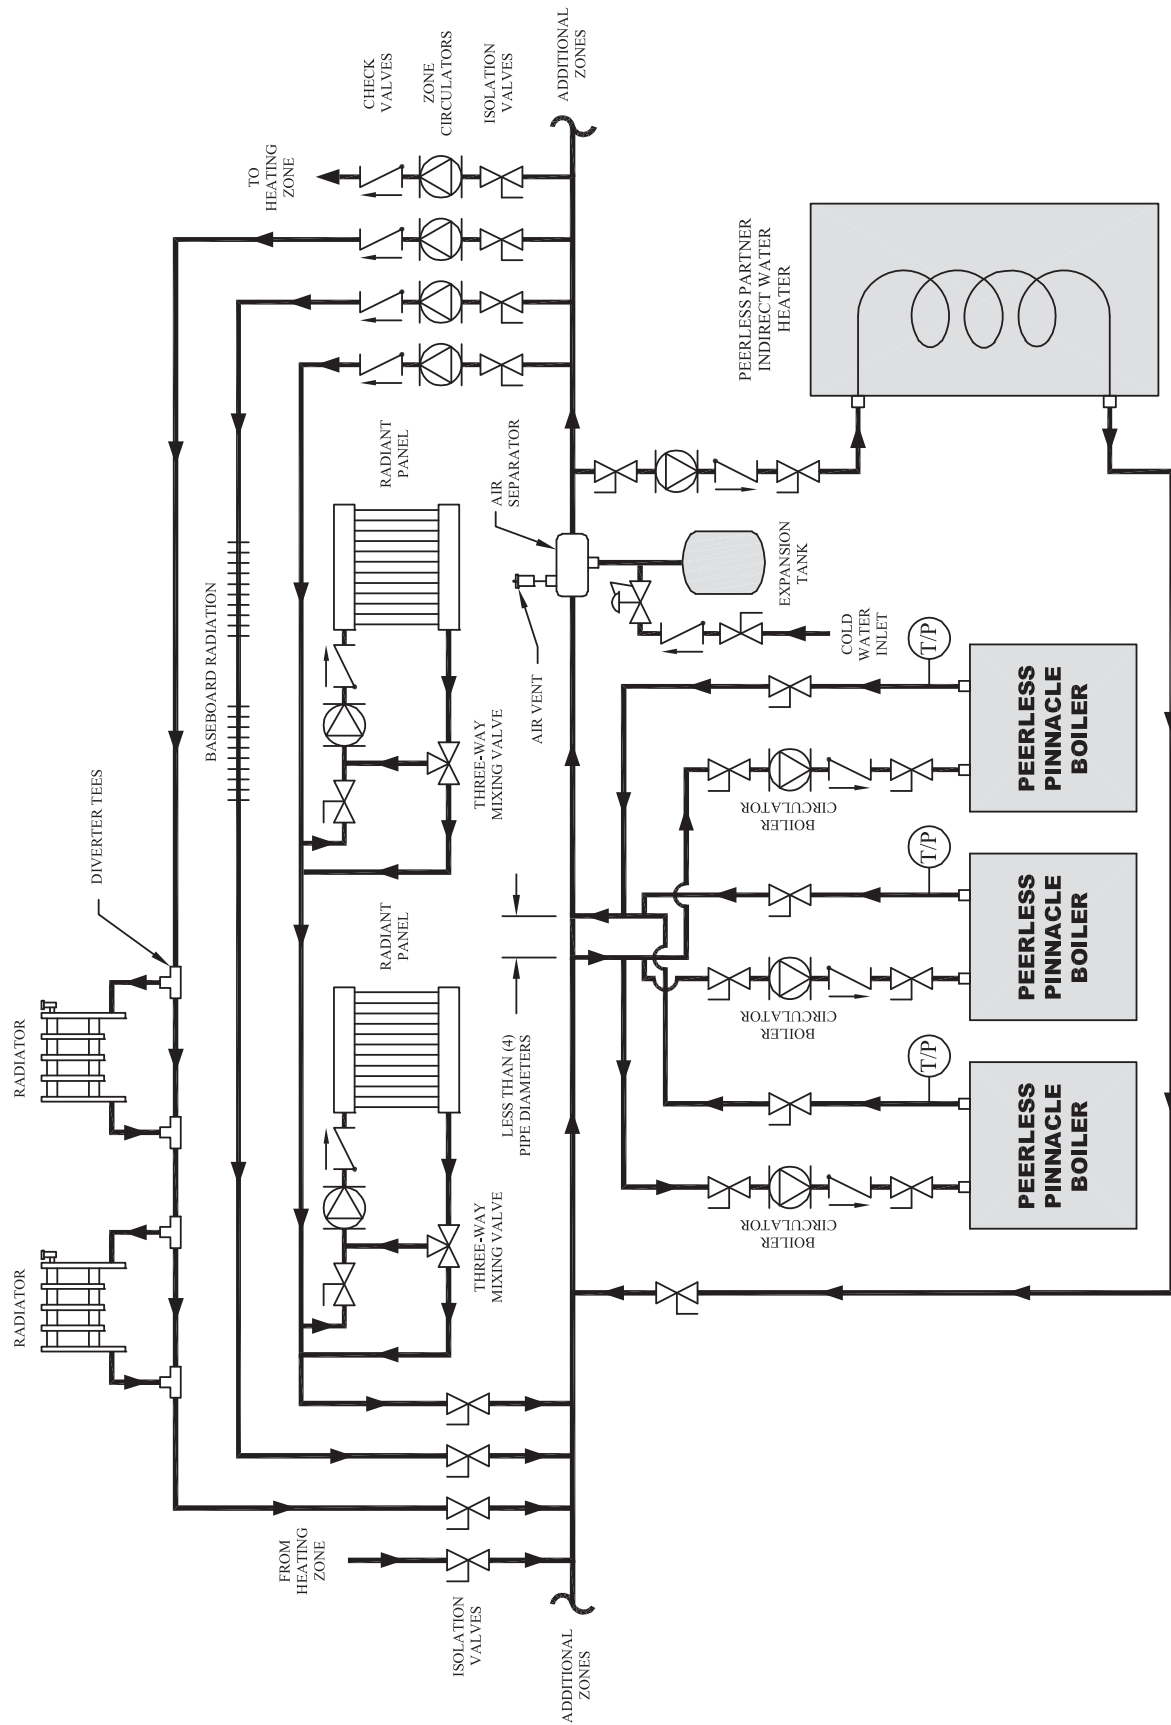

Figure 3.6: Three Boilers, Primary/Secondary with Five Zones (Zone Circulator)
4. Figure 3.6 shows a system in which several different types of loads and multiple boilers are shown. This system illustrates how different temperature zones can be supplied from the same source by mixing down the temperature using a three way mixing valve. Radiant flooring typically requires much lower temperatures than baseboard radiation and indirect water heating. Notice that a third boiler is included in this system.